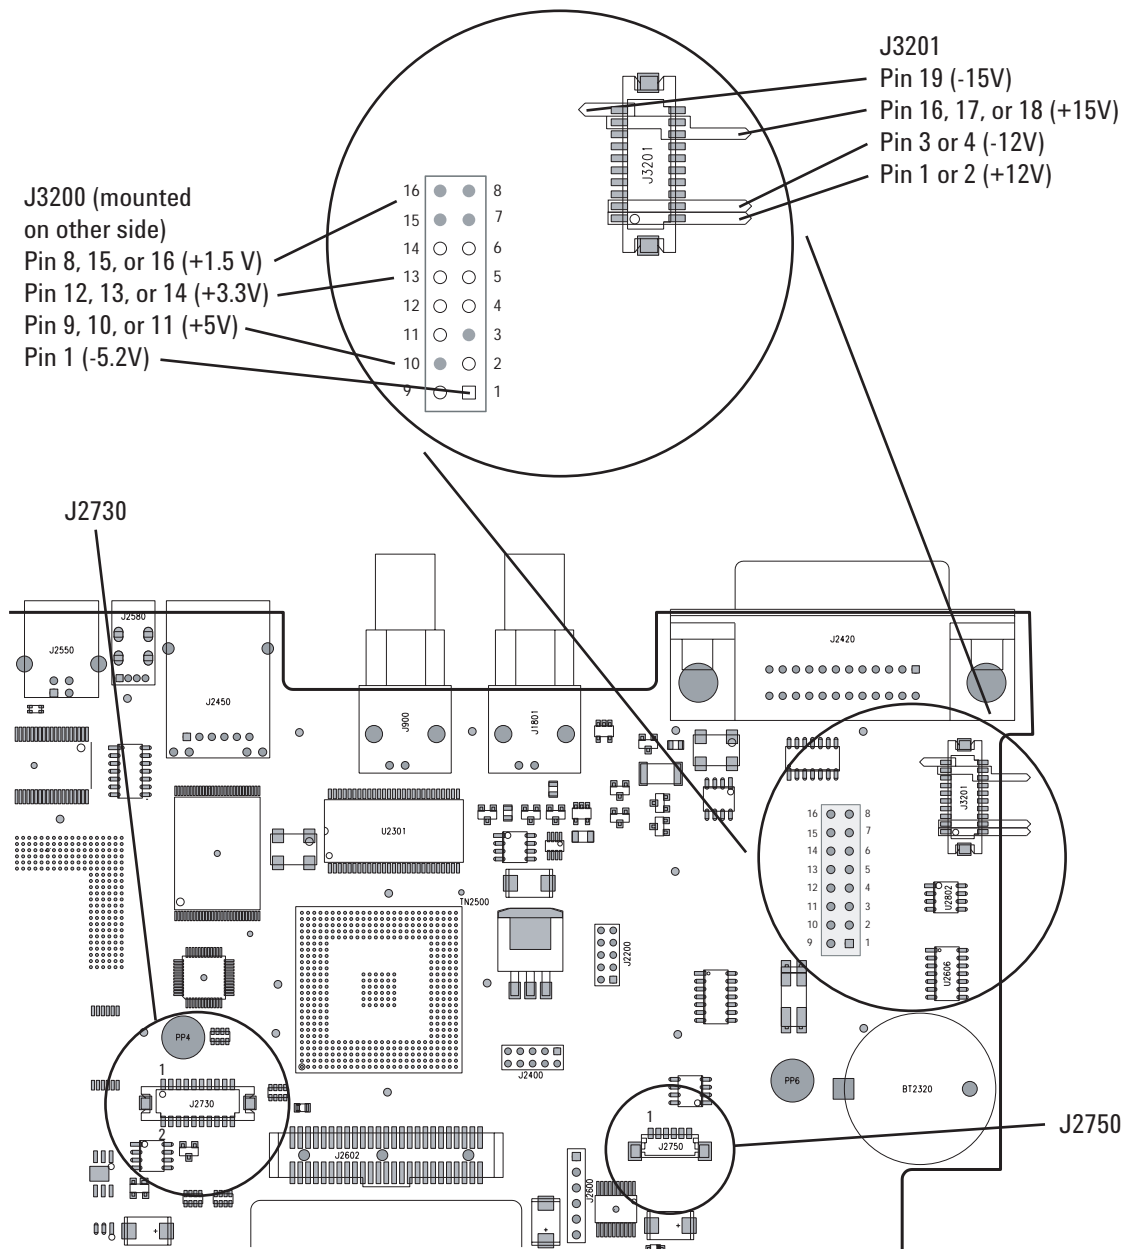

Figure 12 System board test point locations
- 3 Verify the voltages from the AC input board by measuring them at the system board test points, accessible on the bottom of the chassis, and listed in the table below. Refer to Figure 12 on page 70 to locate the test points.